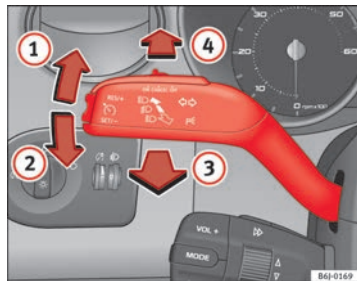

Fig. 60 Turn signal and main beam headlight lever
- Move the lever all the way up ⇒ Fig. 60 ① to indicate **right**, and all the way down ② to indicate **left**.
- Press the lever forward ⇒ Fig. 60 ④ to switch on the main beams.